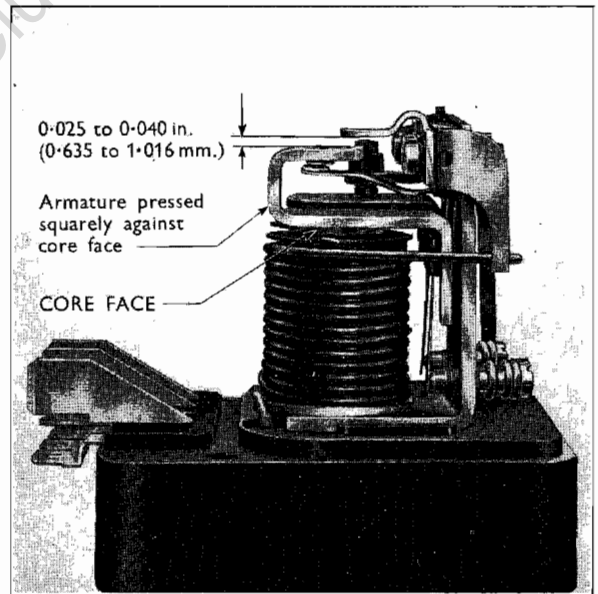

Fig. 4
(5) Insert the end of a 0.010 to 0.020 in. (0.254 to 0.508 mm.) feeler blade between the outer end of the armature and core face, and set the fixed contact, by bending the arm, so that the points are **just touching** (see Fig. 4).
(6) Reset the cut-out adjusting screw as described in "To Test and Adjust the Cut-out."